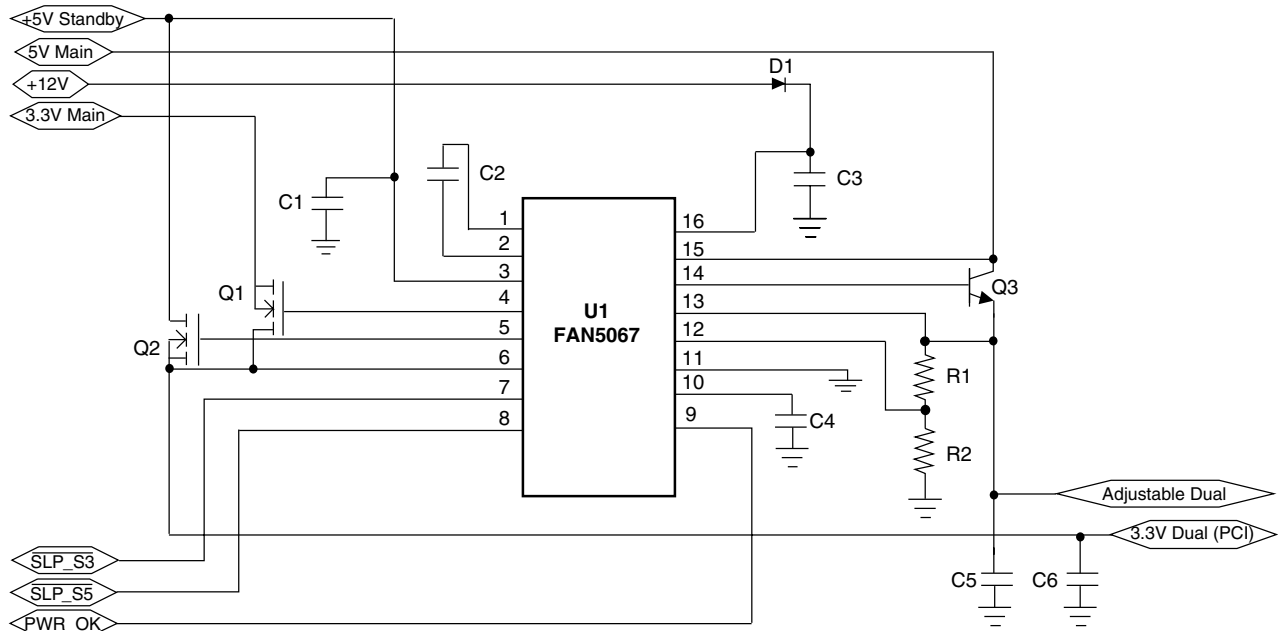
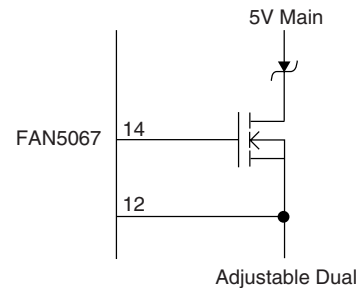

Figure 4. ACPI Selector
Figure 9. Adjustable Dual with MOSFET
( $V_{+5VSTBY} = V_{+5VMAIN} = 5V$ ,  $V_{+3.3V} = 3.3V$ ,  $V_{+12V} = 12V$  and  $T_A = +25^\circ C$  using circuit in Figure 4, unless otherwise noted.)
3.3V dual can be generated by two MOSFETs, one from +3.3V main, the other from +5V standby, as shown in Figure 4. When main power is present, the MOSFET Q1 is turned on as a switch, so that input and output are connected together. When main power is absent, the MOSFET Q2 is controlled by the FAN5067 as a linear regulator, generating a regulated 3.3V from +5V standby. The MOSFET Q1 must be connected as shown in the figures, to avoid back-feed.
Adjustable dual is generated by one external NPN bipolar acting as a linear regulator from +5V main, and one linear regulator internal to the FAN5067 from +5V standby, as shown in Figure 4, and in the block diagram on the front page. When main power is present, the NPN Q3 linear regulates, and when main power is absent, the internal linear regulator is on. Q3 cannot be substituted with a MOSFET. If used in one direction, the MOSFET’s body diode would permit back-feed; if used in the other direction, it would short-circuit the linear regulator action.
The output voltage of the Adjustable Dual is set with two resistors as shown in Figure 4, according to the equation.
In main power operation, the FAN5067 is run from the +12V main supply. This supply also provides voltage to the various MOSFET gates. However, during standby, this supply is off. To provide power to the chip and the appropriate gates, the FAN5067 incorporates a free-running charge pump. As shown in Figure 4, and in the block diagram on the front page, a capacitor attached between pins 1 and 2 of the FAN5067 acts as a charge pump with internal diodes. The charge pump output is internally diode or'ed with the 12V input. The 12V input must have a series diode to prevent back-feeding the charge pump to the +12V main when in standby. The 12V input line needs a bypass capacitor for high-frequency noise rejection. If desired, the system may be operated without the 12V or the diode; however, the bypass capacitor must still be present.
Instead of the bipolar transistor shown in Figure 4 for Q3, the linear pass element for the adjustable dual, a MOSFET and schottky diode can be used as shown in Figure 9.